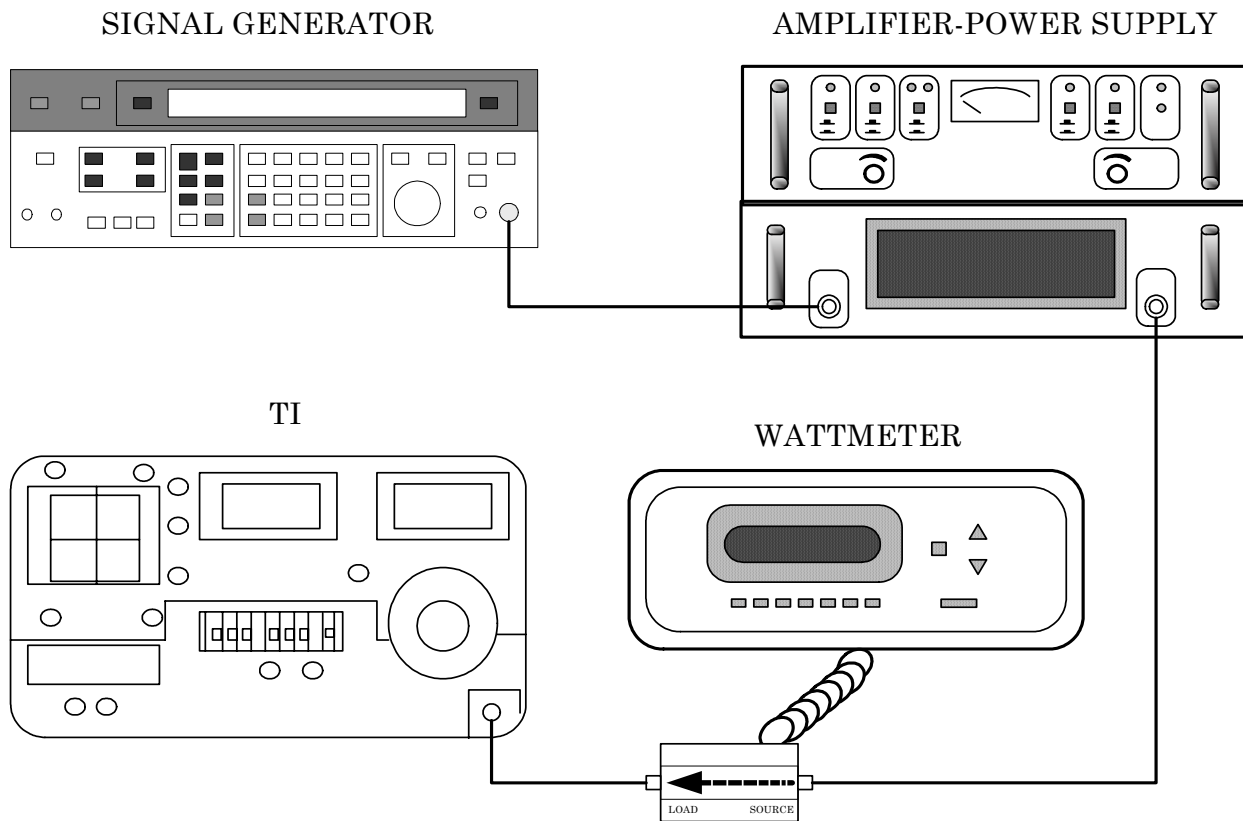

Figure 7. Power meter - equipment setup.
(2) Connect equipment as shown in figure 7.